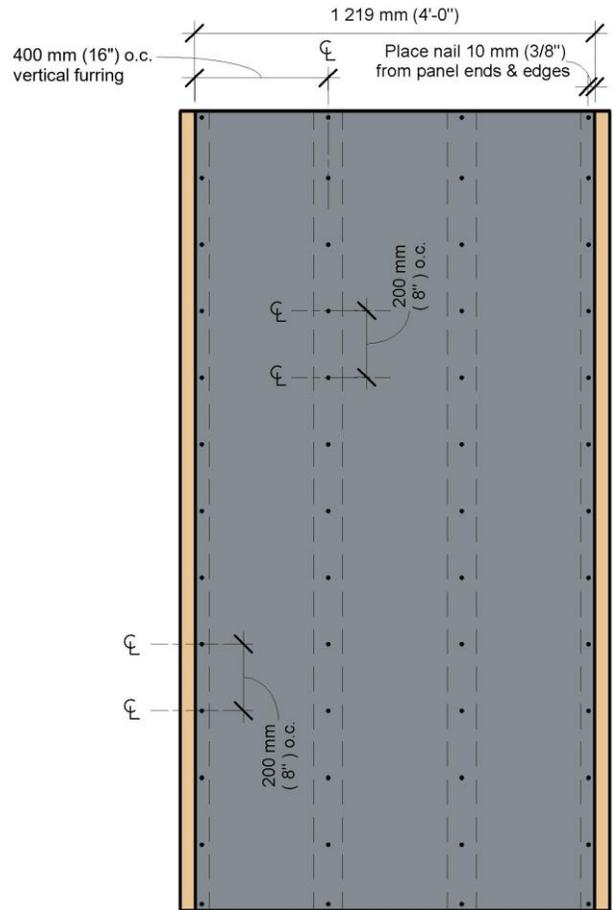

Figure 5
0.113" x 51 mm (2") HDG ⁽³⁾ ring shank nail	One nail every 200 mm (8") o.c. vertically into cladding and furring only (See Figure 5)